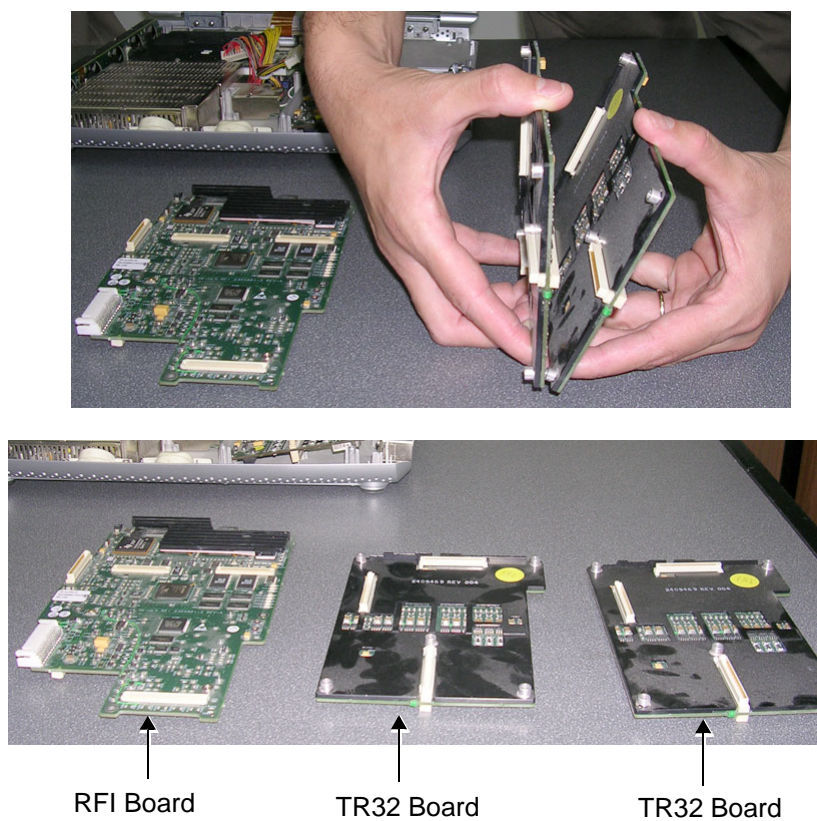

Figure 8-44 Separating the Two TR32 Boards from Each Other
10.) Separate the two TR32 Boards from each other, as shown in Figure 8-44 below.
- 1) Re-connect the two TR32 Boards to each other (gently press together as shown in Figure 8-44 on page 8-36).